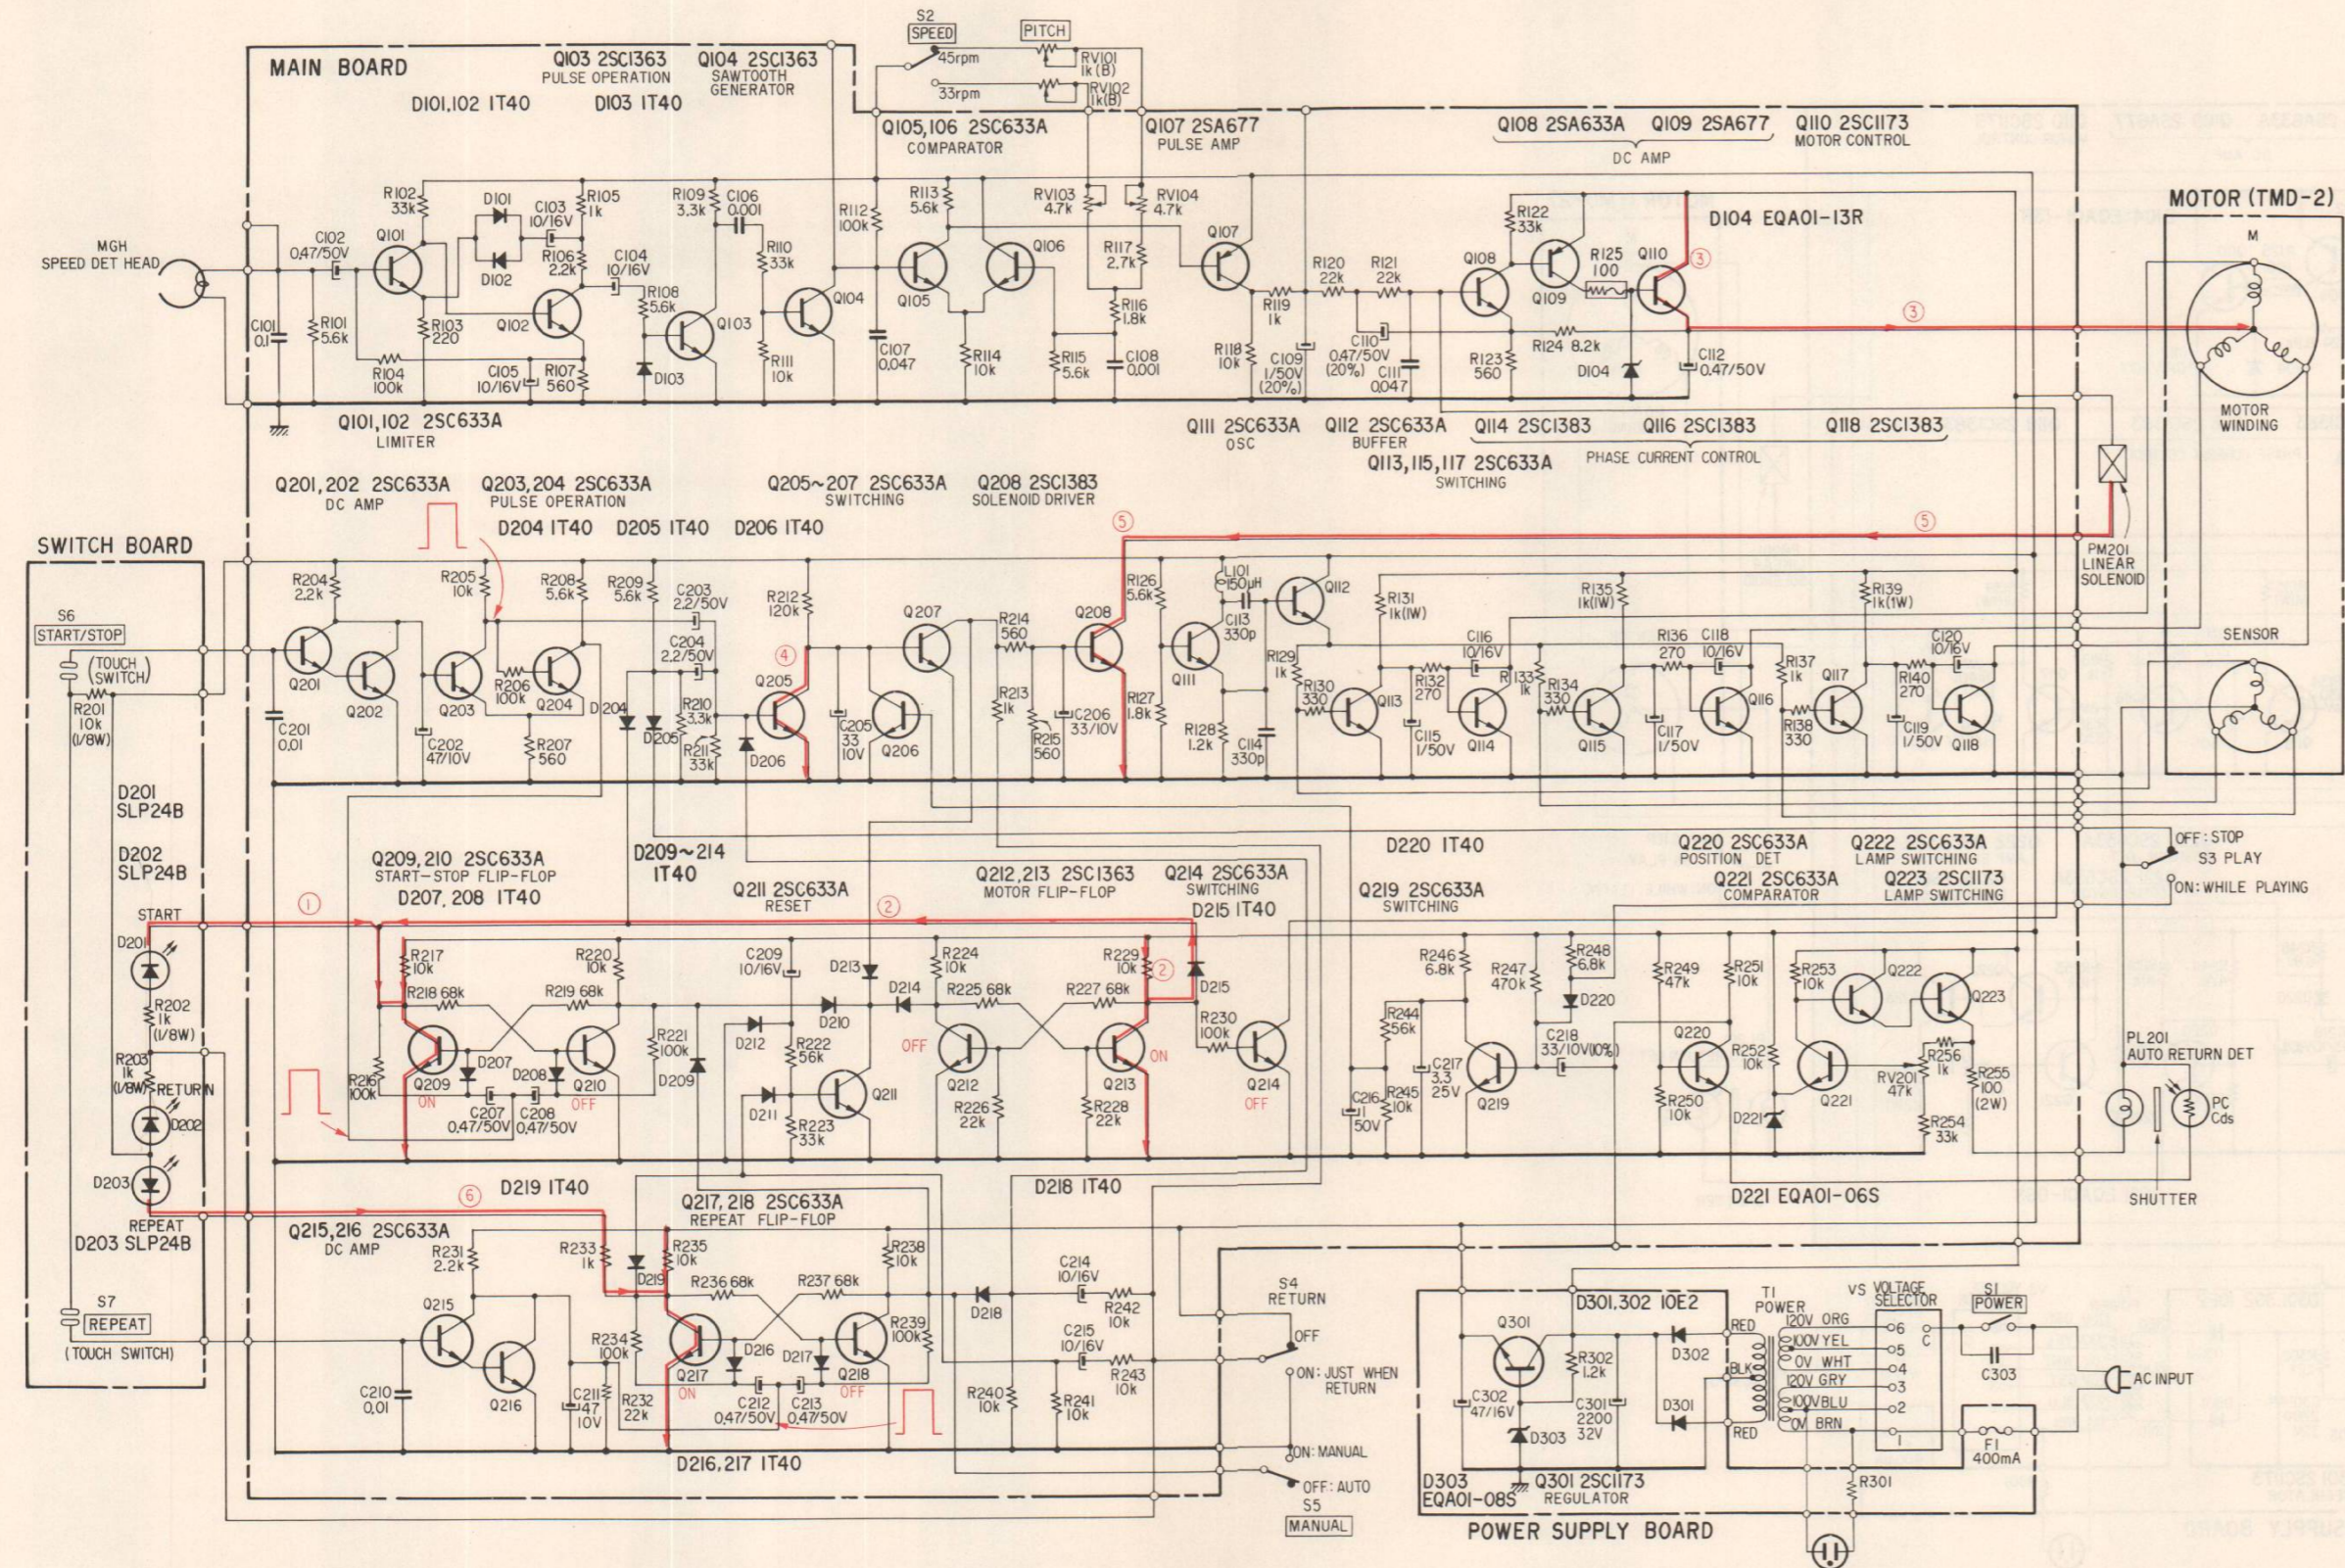

Fig. 2-7.
**2. Operation for auto-start** (see Fig. 2-7)
- A negative trigger signal is generated on the collector of Q204 (which forms part of a Schmitt trigger circuit). This signal passes via C207 and C208 to invert the Q209, Q210 start-stop flip-flop. That is, Q209 is turned ON, and Q210 turned OFF. The same instant that Q209 is turned ON, the START indicator (LED) D201 lights up (1 in Fig. 2-7). As a result of the current (2 in Fig. 2-7) flowing through D215, the Q213 collector potential will drop, thus resulting in the inversion of the motor flip-flop Q212, Q213 (Q212 is turned OFF, and Q213 turned ON). Q214 is consequently turned OFF, thus starting the motor. (See current flow 3 in Fig. 2-7.)
- A positive trigger signal is generated on the collector of Q203. This signal passes C203, and is applied to the base of Q205 which is thus turned ON. (See current 4 in Fig. 2-7.) With Q205 being turned ON, C205 will discharge, Q207 turns OFF, and Q208 turns ON. Current thus flows to the solenoid, which
consequently activates the mechanism. Tonearm automatically lowers itself onto the record. (See current 5 in Fig. 2-7.)
#### 4. Operation when the START/STOP button (S6) is touched during the playing of a record. (see Fig. 2-7)
1. If S6 is touched during the playing of a record, a positive trigger signal will be generated on the collector of Q203, just as in the case when the auto-start mechanism is activated. A current flows through the solenoid, the auto-return mechanism is activated, and the tonearm is returned to the arm rest. (See current flow ④ and ⑤ in Fig. 2-7.)
#### 5. Repeat operation (see Fig. 2-7)
1. When switch S7 is touched, a negative trigger signal is generated on the collector of Q216, and is applied to the repeat flip-flop Q217, Q218 which is consequently inverted. That is, Q217 is turned ON, and Q218 turned OFF. And once Q217 is turned ON, the REPEAT indicator lamp (LED) D203 lights up. (See current flow ⑥ in Fig. 2-7.)
2-4. SCHEMATIC DIAGRAM (Fig. 2-7)